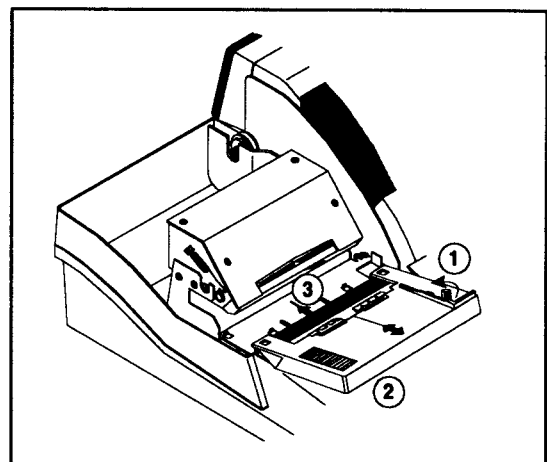

Figure 4-4. Ribbon Cassette
1. Before inserting ribbon cassette②, turn knob ① (see Figure 4-4) counterclockwise to prevent twisting the ribbon.
2. After inserting the ribbon cassette② at the center③ of the printer, turn the knob ① counterclockwise again to make sure the ribbon moves freely in the cassette.